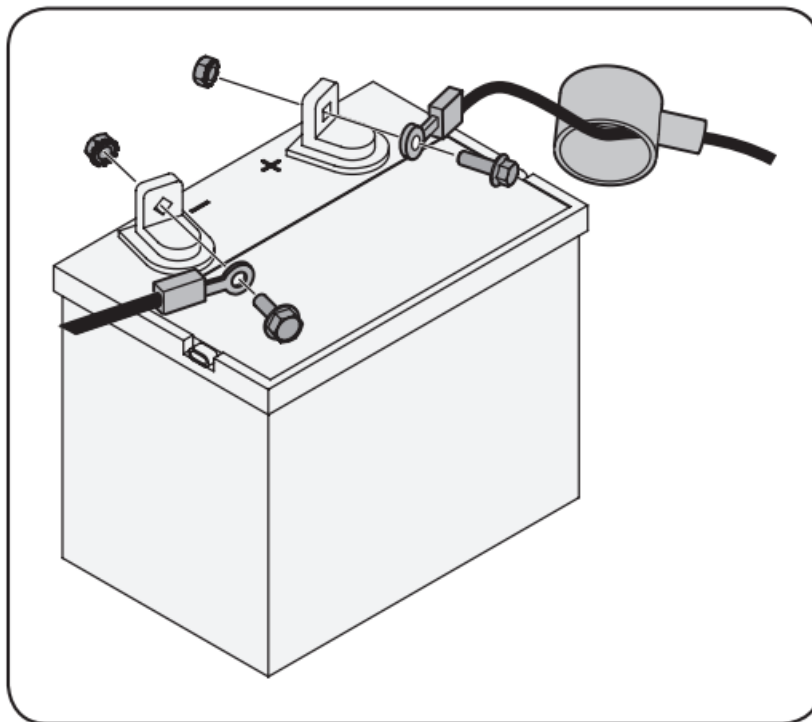

Figure 3-2
1. Remove the plastic cover, if present, from the positive battery terminal and attach the red cable to the positive battery terminal (+) with the bolt and hex nut. See Fig. 3-2.
2. Remove the plastic cover, if present, from the negative battery terminal and attach the black cable to the negative battery terminal (–) with the bolt and hex nut. See Fig. 3-2.